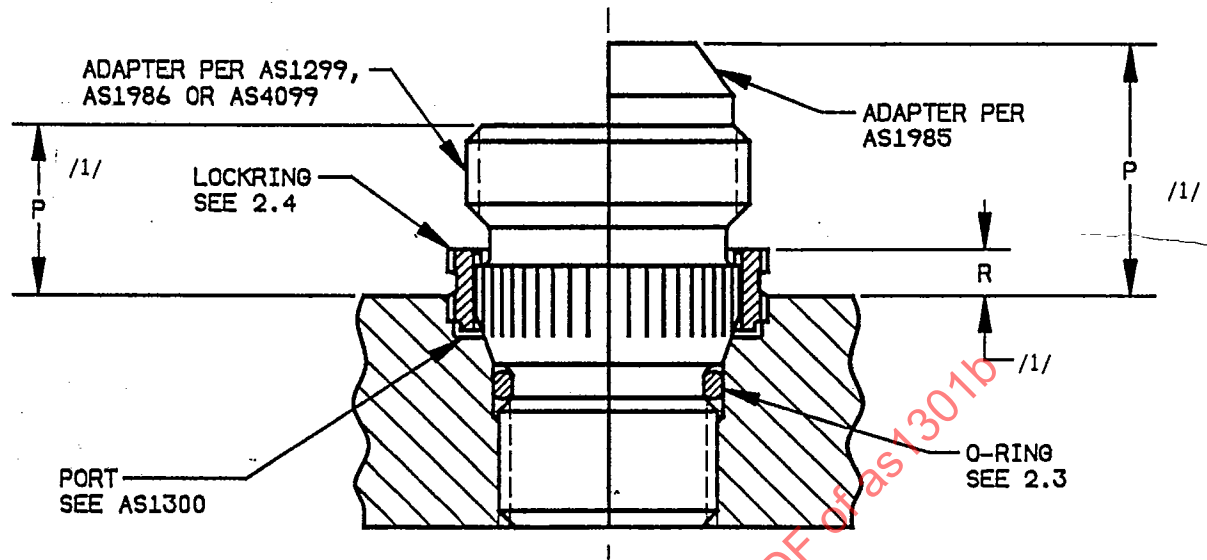

FIGURE 1 -Installed Adapter
- 2.2 Adapters per AS1299, AS1985, AS1986, and AS4099 installed per this document into ports per AS1300 shall have a stand-off per dimension "P" in Figure 1 and Table 2.